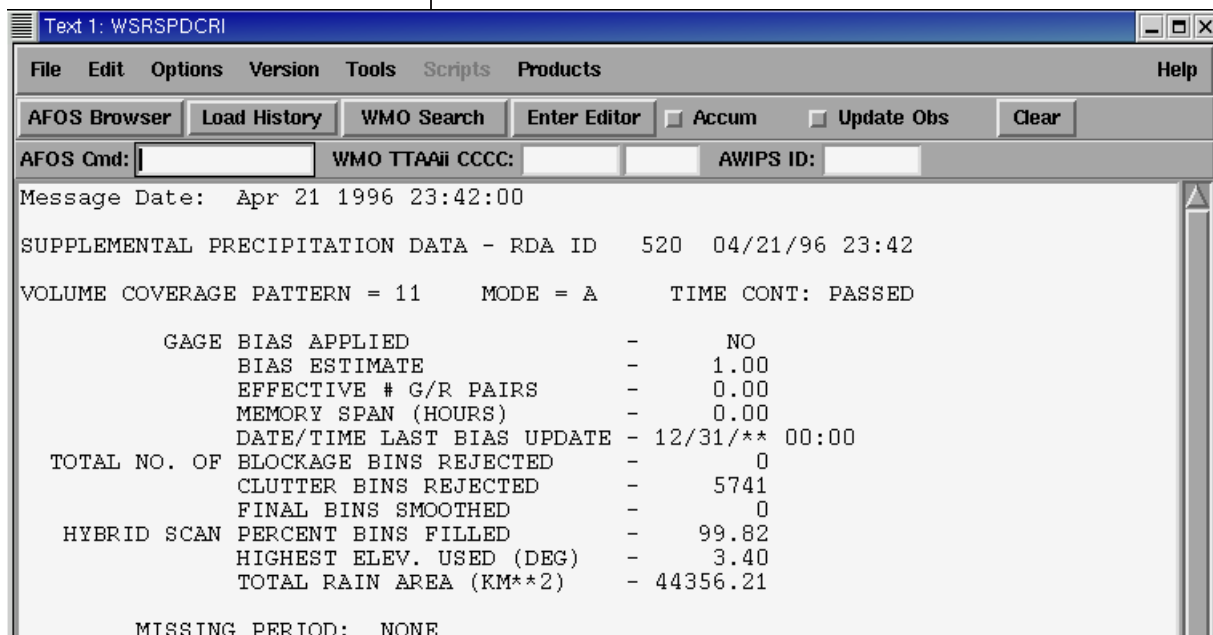

Figure 5-115. Supplemental Precipitation Data (SPD) product.
- Alphanumeric product (see Fig. 5-115 on page 5-184)